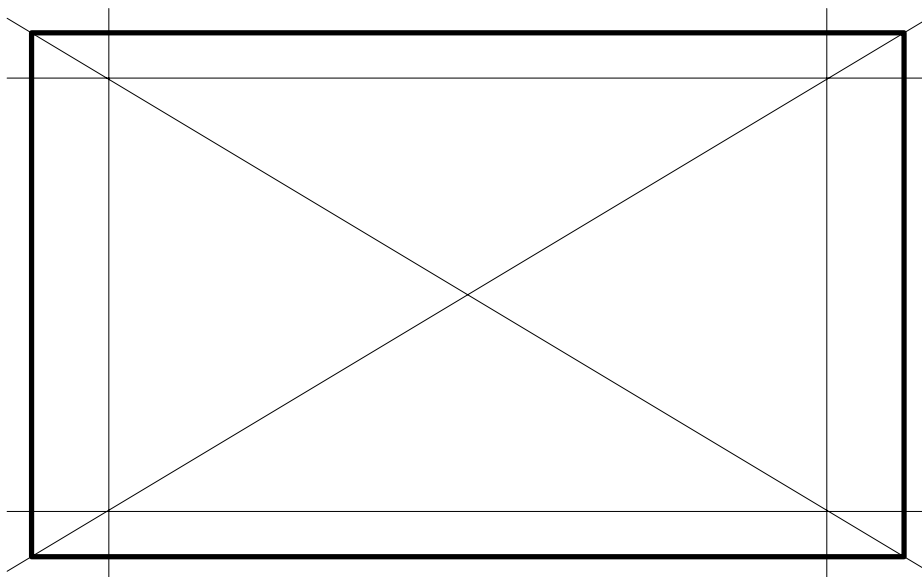

Figure 6-2. Cylinder Head (Sheet 1 of 4)
- (1) Clean cylinder head thoroughly.
- (2) Place a straight edge along one side of cylinder head.
- (3) Use a feeler gauge to measure clearance between cylinder head and straight edge. Allowable limit is 0.0020 in. (0.05 mm).
- (4) Refer to Figure 6-2 (Sheet 1) and repeat step 3, placing the straightedge along remaining three sides and diagonally across the face of the cylinder head.
- (5) If the clearance exceeds the allowable limit, repair cylinder.